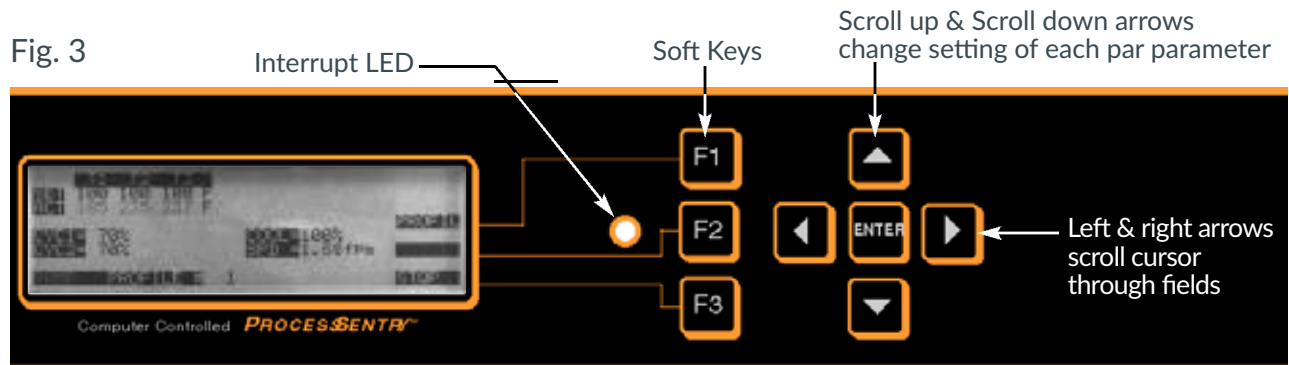

Fig. 3
3. PROF- (Fig. 3) For changing graphic profile display settings including: Time in minutes (choice of 4 or 8 min.), Maximum Temp (choice of 500°F/260°C or 700°F/371°C), Temp 1 (arbitrary horizontal reference line normally set for activation temperature), & Temp 2 (arbitrary horizontal reference line normally set for melting temperature).